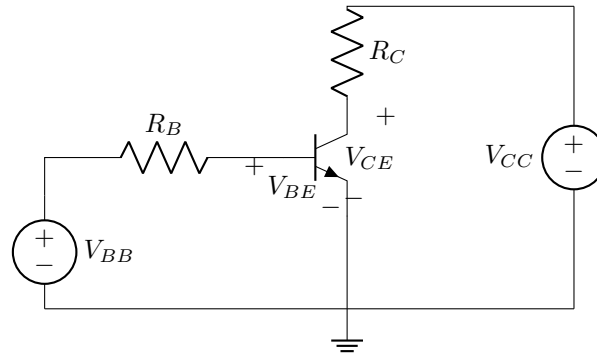

Figure 1: Circuit for measuring DC current gain ( $\beta$ ) of an NPN BJT.
In this portion of the experiment, you will measure the DC current gain ( $\beta$ ) of your NPN transistor and verify the fundamental relationship  $i_C = \beta i_B$ . Begin by identifying the emitter, base, and collector terminals of your transistor using the datasheet or package diagram. Construct the circuit shown in Figure 1 on your breadboard, taking care to orient the transistor correctly.
In this section, you will map the complete output characteristics of the BJT by measuring collector current as a function of collector-emitter voltage for several fixed values of base current. These characteristic curves are fundamental to understanding BJT behavior and are analogous to the drain characteristics of MOSFETs. Use the same circuit as Part 1 (Figure 1).
Using the circuit in Figure 1, keep  $V_{CC}$  fixed at 10 V to ensure the transistor remains in the active region throughout the measurements. You may wish to reduce  $R_B$  to 10 k $\Omega$  for this part to allow higher base currents and easier measurements, though 100 k $\Omega$  is also acceptable.
1. For the circuit in Figure 1, assume  $V_{BB} = 3$  V,  $V_{CC} = 10$  V,  $R_B = 100$  k $\Omega$ ,  $R_C = 1$  k $\Omega$ ,  $\beta = 120$ , and  $V_{BE} = 0.7$  V when the transistor is conducting. Calculate: